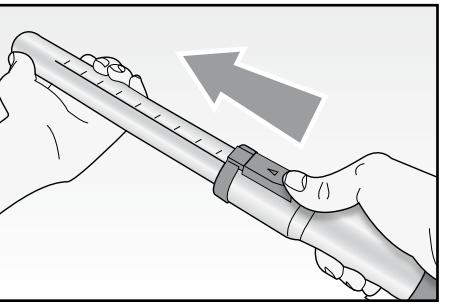

Fig. 4
Once the attachment has been fitted, it is possible to extend the telescopic tube using the lever (FIG. 4) to move it to the required length. Release the lever to stop the tube in the required position.
- Push the slider device (L) forwards and pull the bottom section of the tube out to the required length (Fig. 4). To shorten the tube, push it back in the opposite direction.